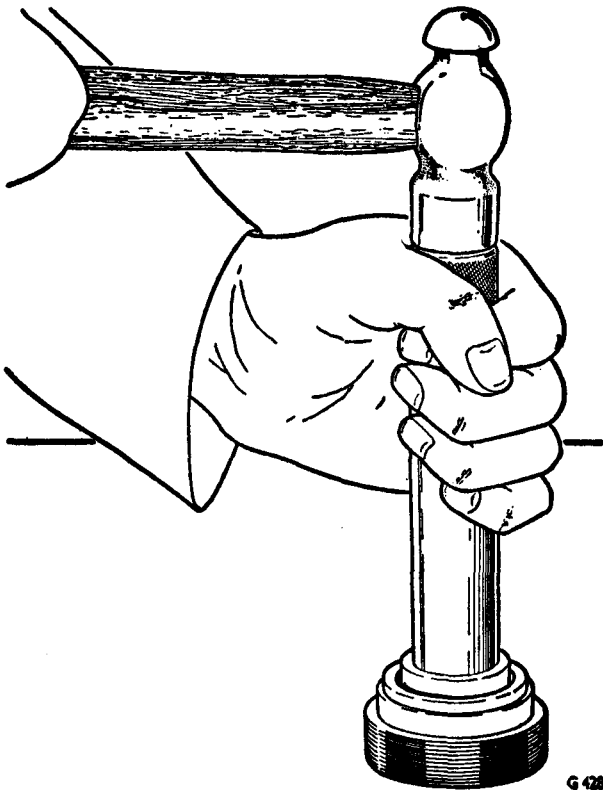

FIG. N31 REMOVING AND INSTALLING ADJUSTER PLUG NEEDLE BEARING
1. Inspect the needle bearing in the adjuster plug. If the rollers are broken or pitted, remove the needle bearing by pressing out from the thrust bearing end, using the adjuster plug bearing extraction and insertion tool (RH 7783) (see Fig. N31).
2. Position the bearing and tool over the thrust bearing end of the plug and drive the bearing into the plug (see Fig. N31). The end of the bearing must be flush with the bottom surface of the stub shaft seal bore.